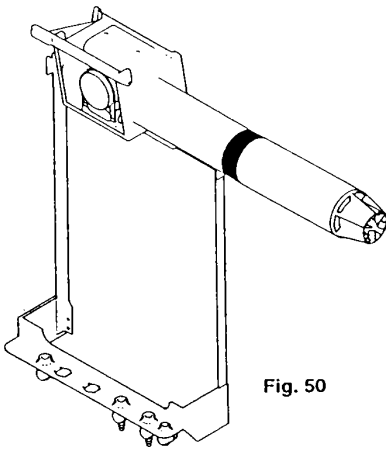

Fig. 50
7. Engage the assembly into the hole previously cut in the wall and slide into place (Fig. 50).